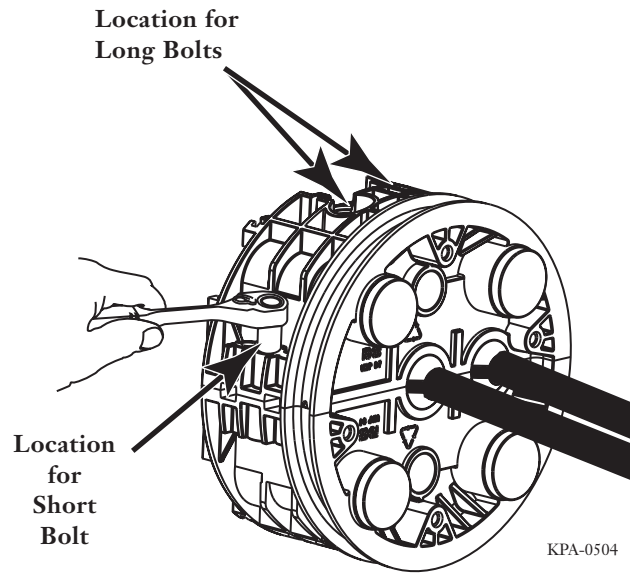

Figure 18 — Close End Cap Halves
- Step 4** Alternately tighten the bolts to close the end cap (Figure 18).